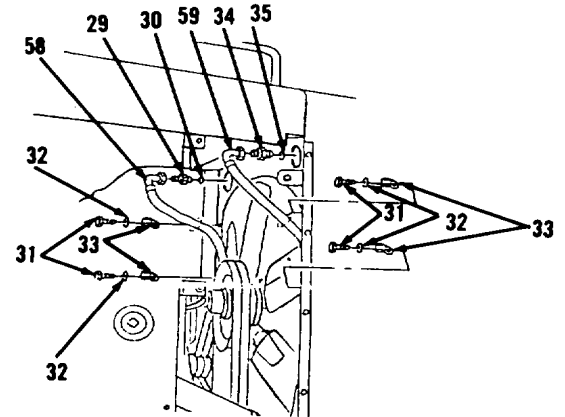
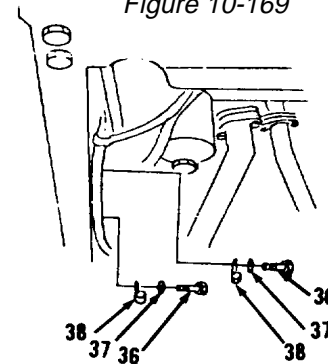

Figure 10-169
Figure 10-170.
9. Remove hose (20), two clamps (21) and hose assembly (22).
10. Remove nut (23), washer (24), clip (25) and move wire and cable assemblies to one side.
11. Remove tube assembly (26), connector (27) and preformed packing (28) from junction block under right center of cab. Discard preformed packing (28).
12. Disconnect hose assembly (58, Figure 10-169).
13. Remove connector (29) and preformed packing (30). Discard preformed packing (30).
14. Remove four bolts (31), washers (32) and clips (33).
15. Disconnect hose assembly (59) from left side of oil cooler.
16. Remove connector (34) and preformed packing (35). Discard preformed packing (35).
17. Remove two bolts (36), washers (37) and clips (38, Figure 10-170) from left side frame rails.